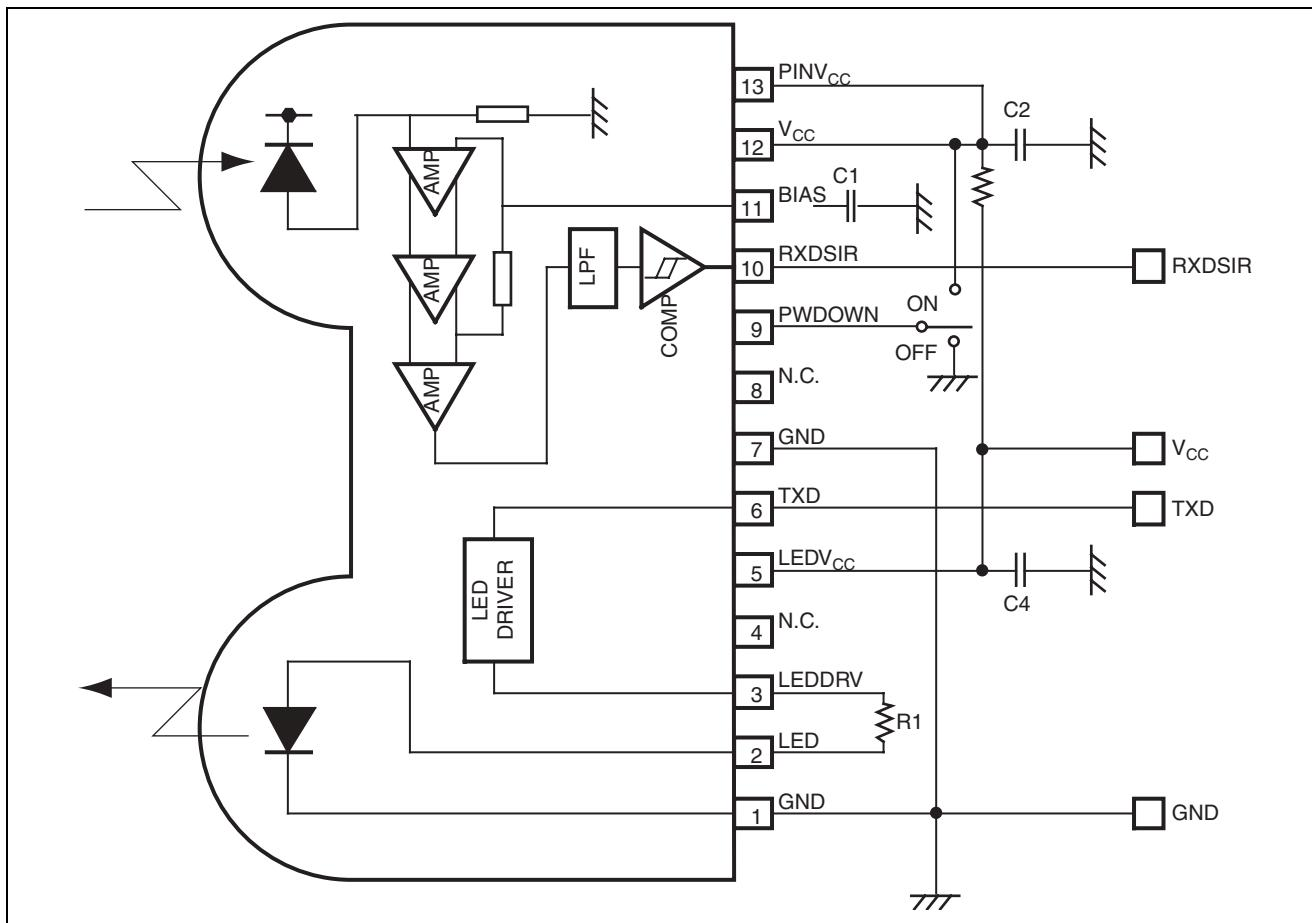

Figure 1.3 Block Diagram of Infrared Light Transceiver and Example of Application Circuit
- C. Figure 1.3 shows the block diagram of the infrared light transceiver and an example of the application circuit.